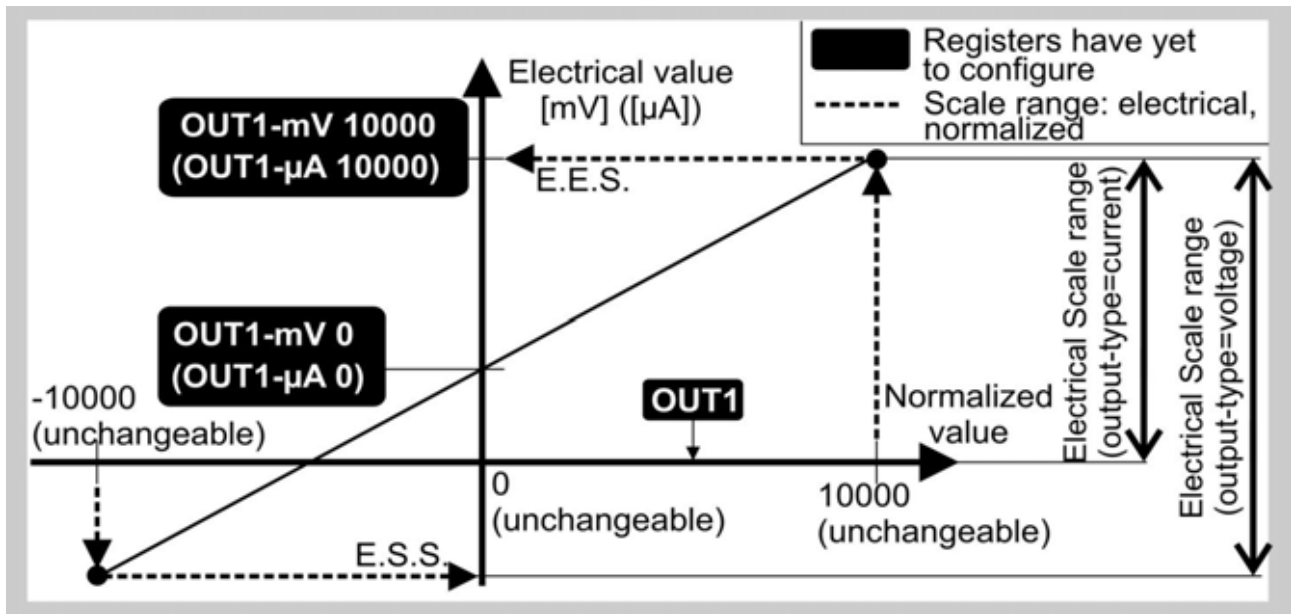

Fig.1 – Description of output configuration (step 1 and step 2)
- 1) configure the register “OUT1-mV 0” (“OUT1- $\mu$ A 0”) corresponding to the normalized value=0 and “OUT1-mV 10000” (“OUT1- $\mu$ A 10000”) corresponding to the normalized value=10000 (figure 1);
- 2) configure the register OUT1: it is the normalized value corresponding to the desired electrical value available at the screw terminals (mV or  $\mu$ A) (figure 1);